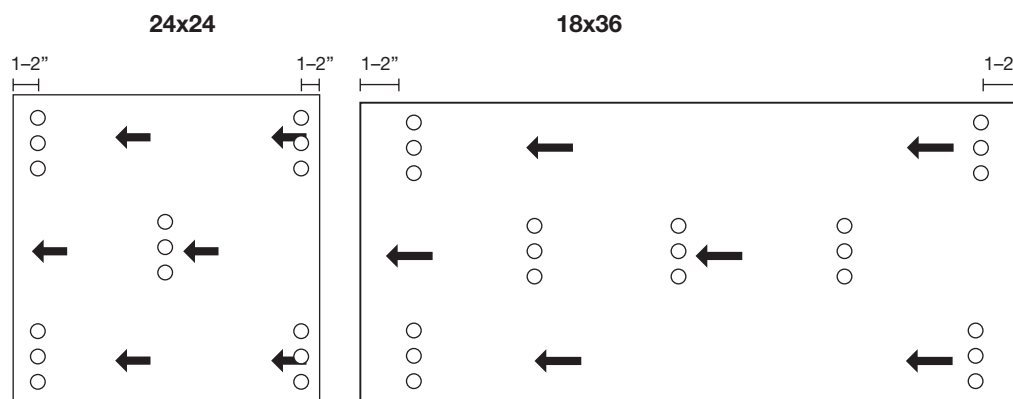

Figure 4
- Using a slow, controlled application speed, pull the dispenser toward you. Apply the amount of adhesives that fit the application as featured in **Figure 4**.
- Carpet tiles come in various sizes. Shaw's Ecoworx tiles are offered in 24" squares or 18" x 36" rectangles. Both have directional arrows on the back of the tile. This facilitates the installation method which is based on the requirements of the product, or the preference of the customer. **See Figure 4**
- Apply LokDots adhesive tabs to the back of each tile in the pattern shown in **Figure 4**. We recommend starting approx 2" from the edge of the tile and moving down the tile perpendicular to the directional arrows. We recommend applying adhesive tabs in a series of 3 tabs in each corner, and in the middle for 24" tiles for an average of 15 per tile. The 18 x 36 tiles has 3 rows in the middle due to its longer length for a total of 21 tabs per tile.